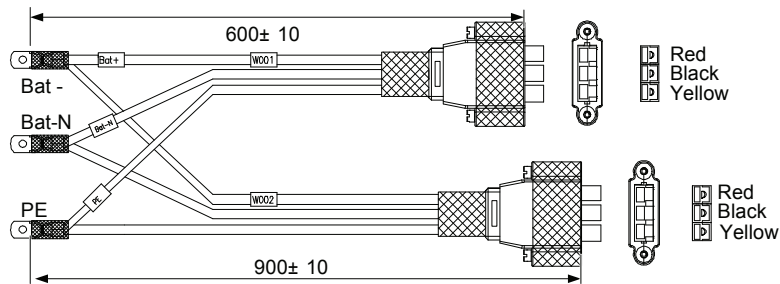
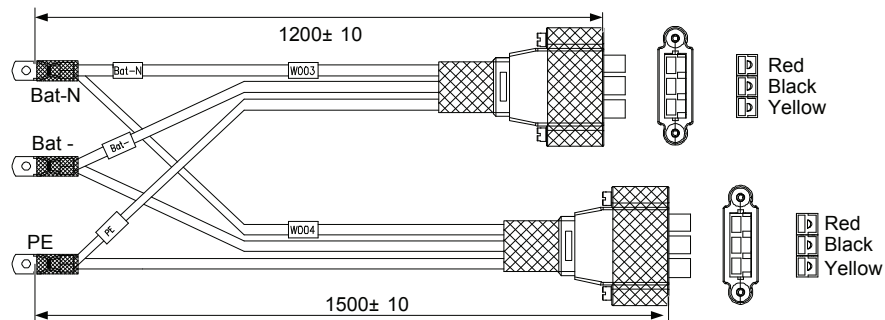

Figure 2-23 One-into-multiple battery cables 1 (unit: mm)
Figure 2-24 One-into-multiple battery cables 2 (unit: mm)
5. Refer to Figure 2-23 and Figure 2-24 for the length of the battery cables. If you need longer cables, please consult the dealer. It is recommended that the battery cable should be shorter than 3m. Otherwise, the UPS cannot operate normally.
It is recommended to use four battery modules for power supply, including two positive battery modules and two negative battery modules, using one-into-multiple battery cables (optional) to connect. The positive battery module cable is shown in Figure 2-23, and the negative battery module cable is shown in Figure 2-24. Connect the Bat+, Bat-N, Bat- and PE terminal to the corresponding terminal of the UPS, and the terminals of the other end (color: red, black and yellow) to the corresponding terminal of the battery module.